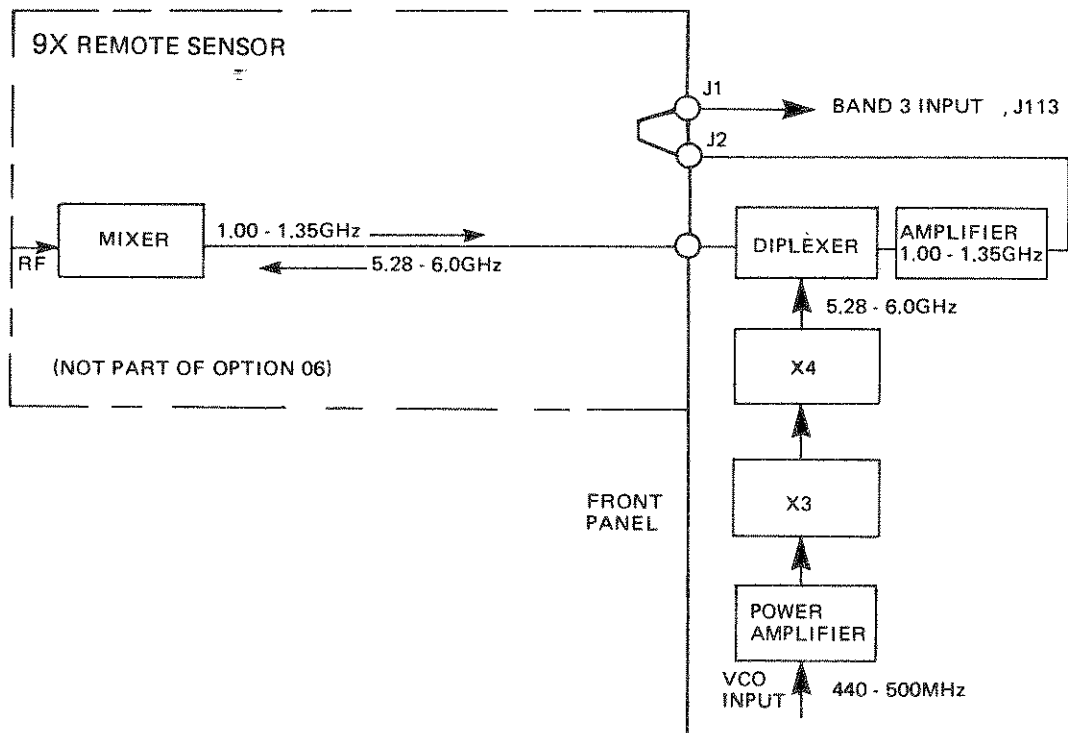

Figure 06-1. Frequency Extension Block Diagram
A multiplier chain increases the VCO output frequency to the 5.28–6 GHz range, which is referenced to the time base. See Figure 06-1. This signal provides the local oscillator (LO) power, which is transmitted to the remote sensor, an external harmonic mixer. When the input frequency and harmonics of the LO, (generated in the mixer) combine, a first IF is generated in the range of 1.00–1.35 GHz.